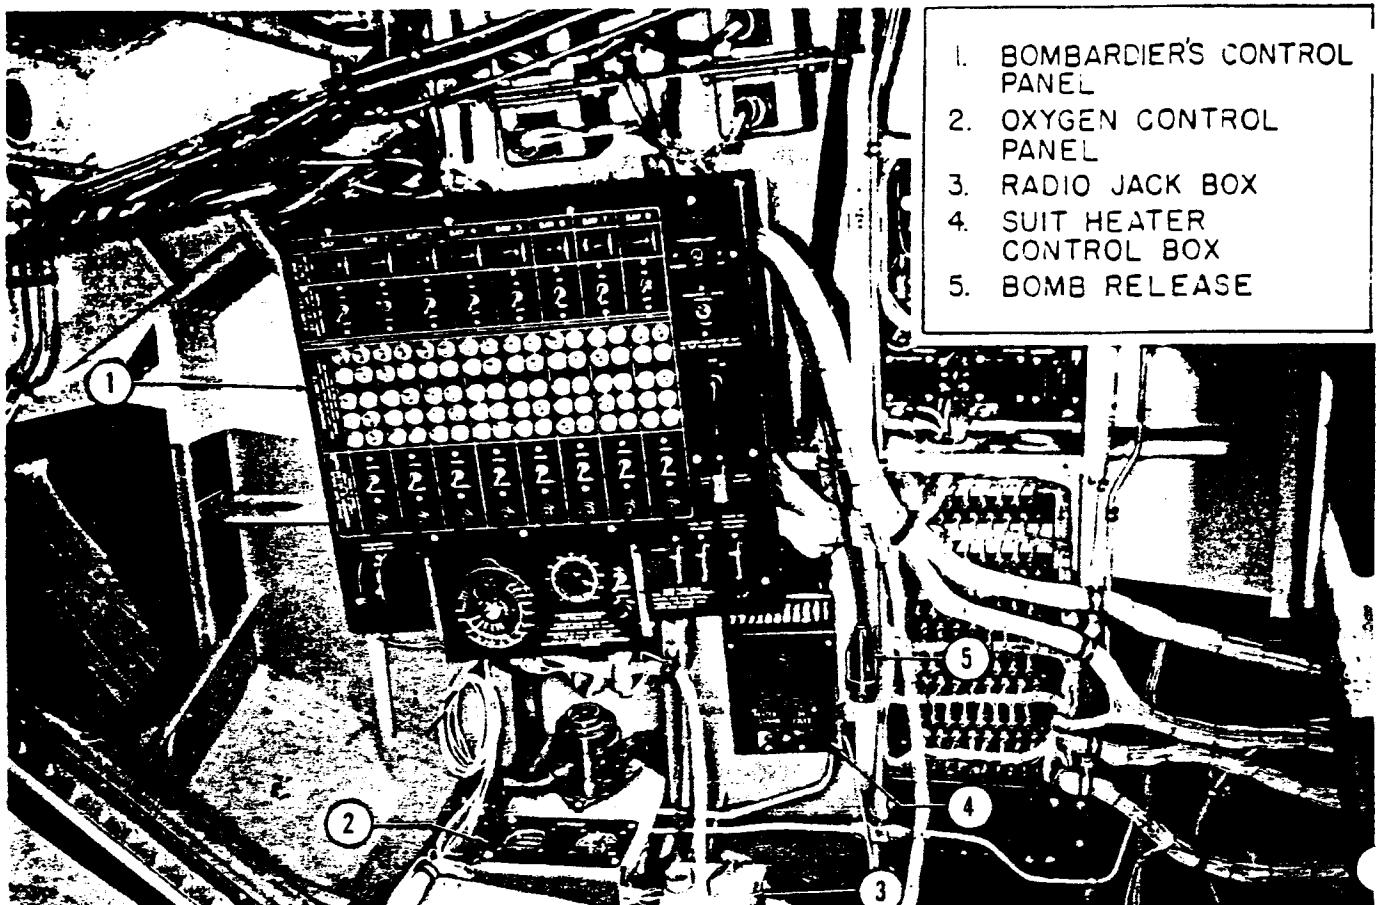

Figure 10. Bombardier's Station
7. BOMBARDIER'S STATION. (See figure 10.)